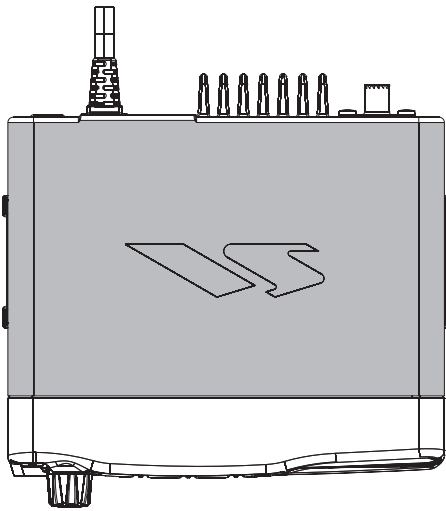

Figure 1
2. Referring to Figure 1, grasp the Top Case Cover with both hands, Lift up the Top Case Cover to remove while spread both side of the Top Case Cover.